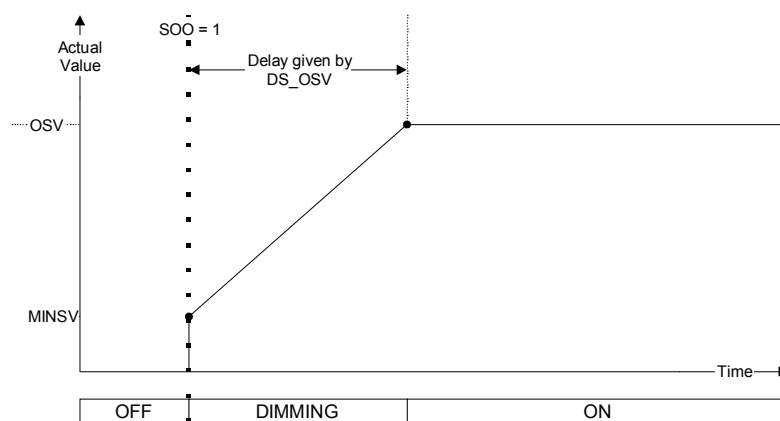

Figure 11 - Timing with parameter DS_OSV
- “Dimming Speed for switching on set value” (DS_OSV): shall determine the time that shall be taken for a sweep between the state OFF to ON by dimming to the on set value (see Figure 11). This shall apply also for the parameter “Dimming Step Time for switching on set value” (DST_OSV).